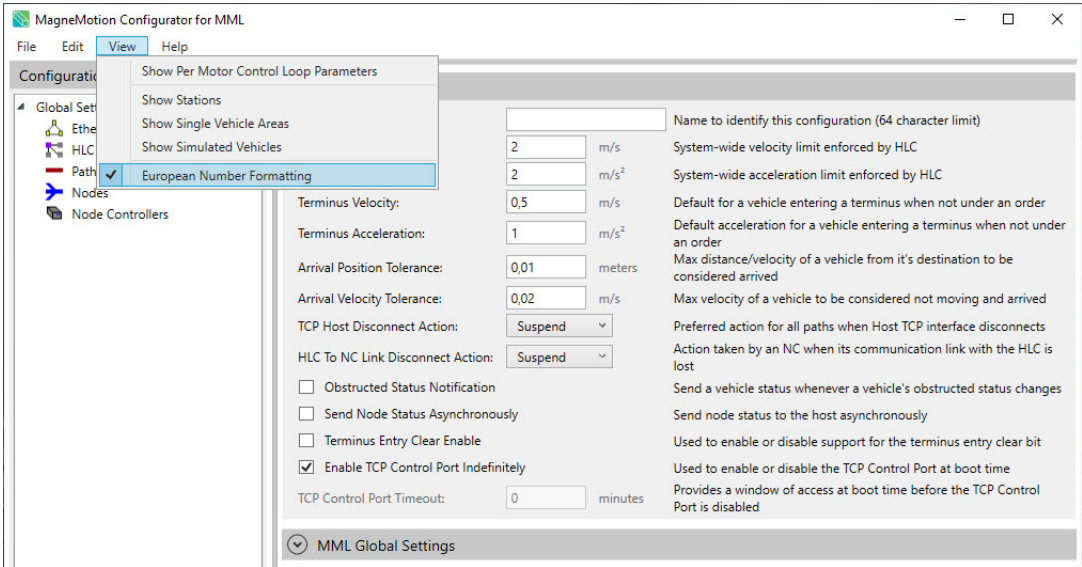

Figure 4-3: European Number Formatting Option Selected
*A check mark is displayed before the **European Number Formatting**, see Figure 4-3, to indicate it is selected and all current values are reformatted, see Figure 4-2.*